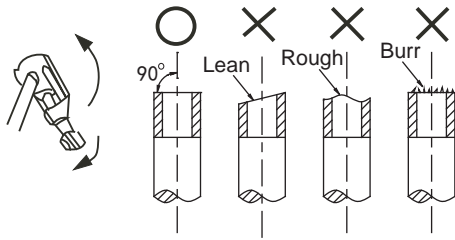

Fig.5-1
- 1) Cut the pipe with a knife. (See Fig.5-1)